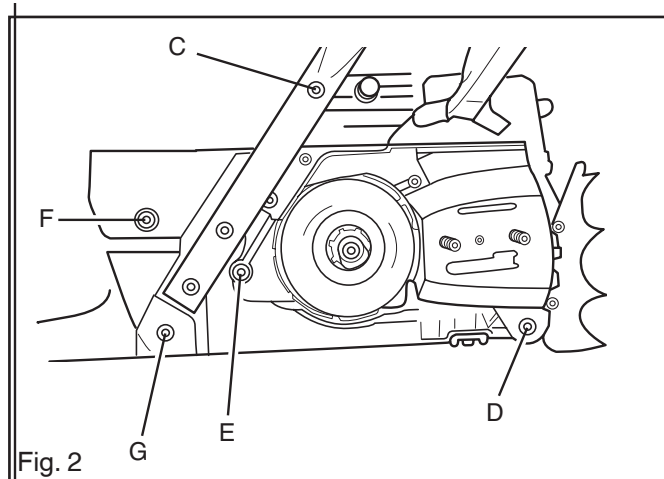

Fig. 2
5. If the chainsaw is fitted with hand grip heating, release the cable at (C). See fig. 2.
6. Remove the bolts (C, D, E and F). See fig. 2.
9. If the tank guard (chain deflection/break) (G) is damaged, it must be replaced. See fig. 2.
10. If necessary, lift out the fuel pipe and pull off the fuel filter. (*Refer to tool at pos13 "3 Service tools" on page 8.*)
3. If the throttle lock has been removed, it should be refitted before the tank unit and engine unit are assembled (*Refer to fig. 2 "9 Throttle trigger lockout, throttle trigger and spring" on page 18*).